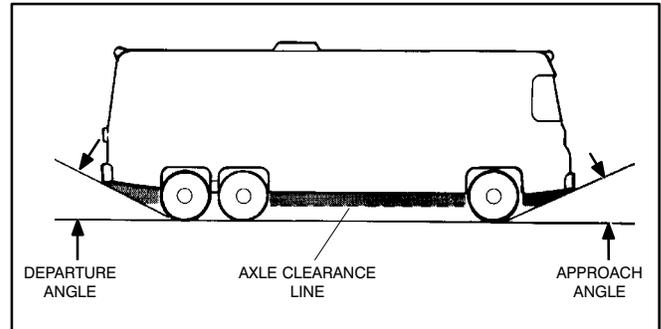

FIGURE 6. APPROACH AND DEPARTURE ANGLES AND AXLE CLEARANCE
5. To prevent damage to the tail pipe while the vehicle is moving, keep it out of the approach and departure angles and above the axle clearance line (Figure 6).